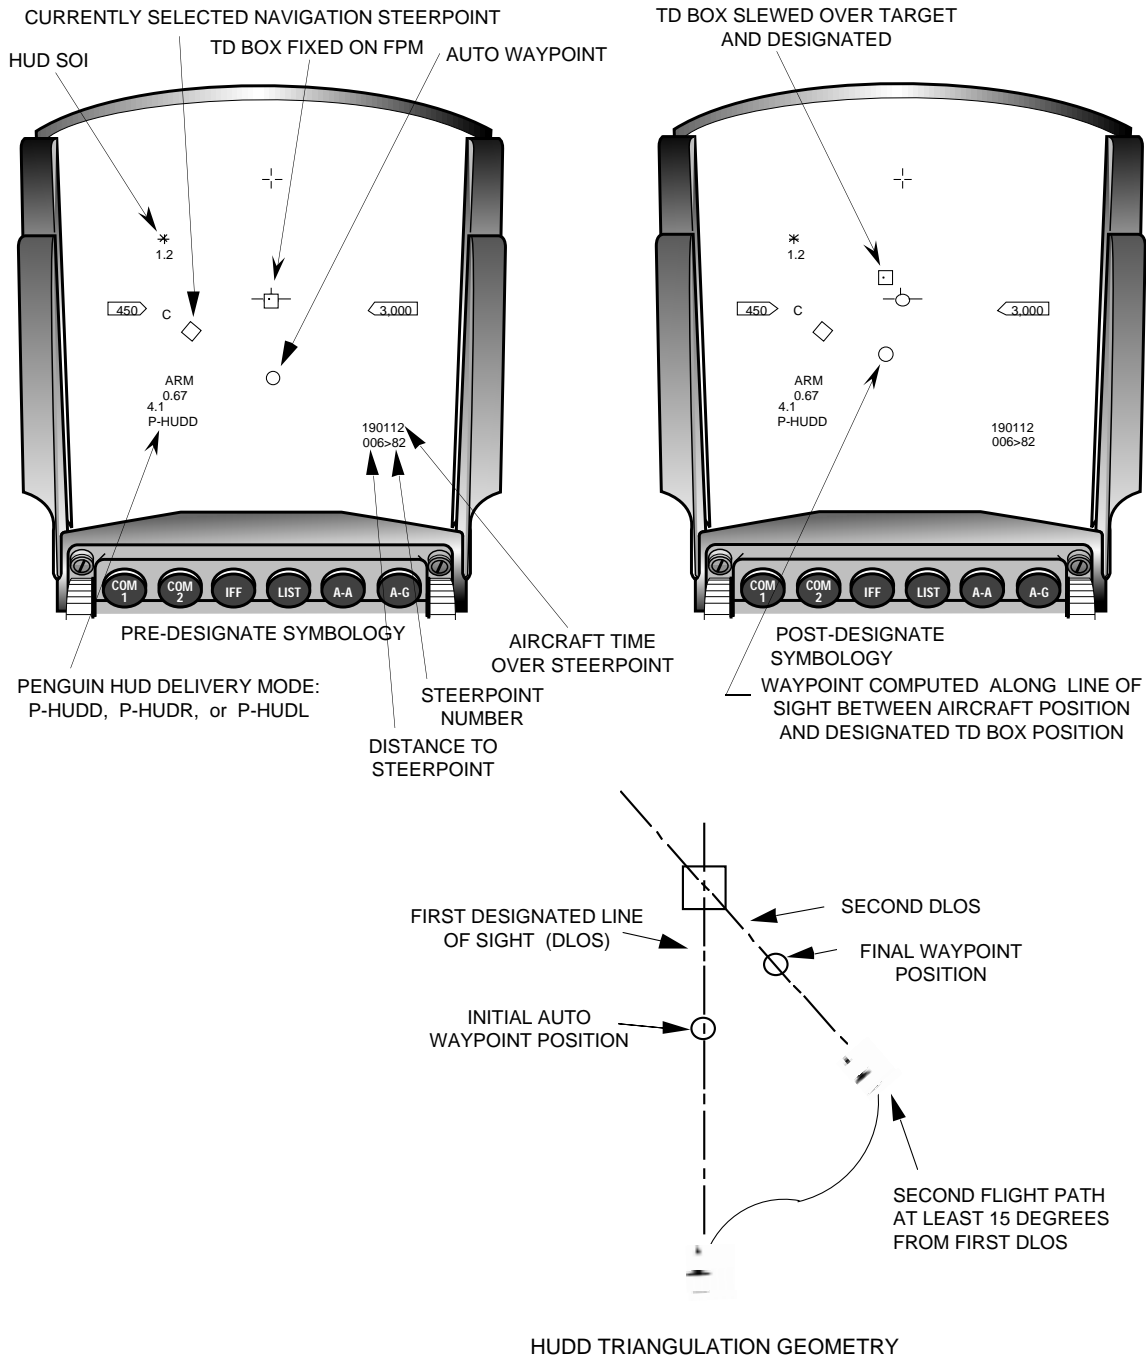

Figure 6-37 HUDD Symbology
**HUDD Symbology.** P-HUDD mode is a short range, secondary Penguin employment option that uses Dive Toss (DTOS) like symbology (Figure 6-37) for executing the weapon delivery.